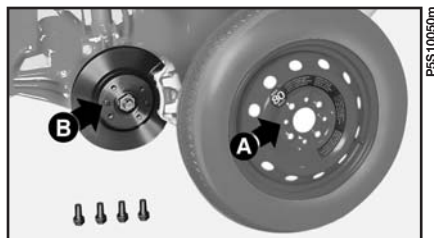

fig. 5
13) Fit the spare wheel making sure that pegs **B** fit into holes **A**-fig. 5.